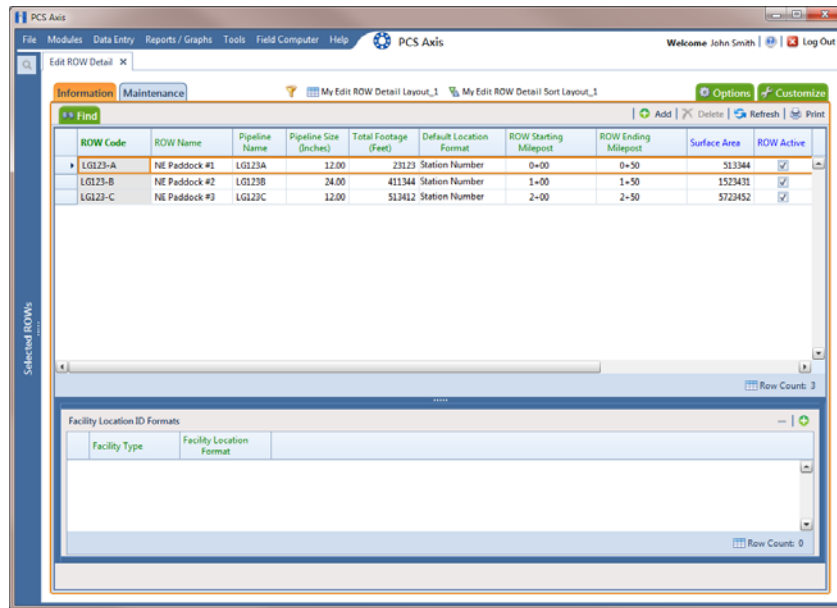

Figure 4-13. Information Grid
- 3 Open the *Edit ROW Detail* grid. Click **Data Entry** > **Edit ROW Detail** (Figure 4-13).